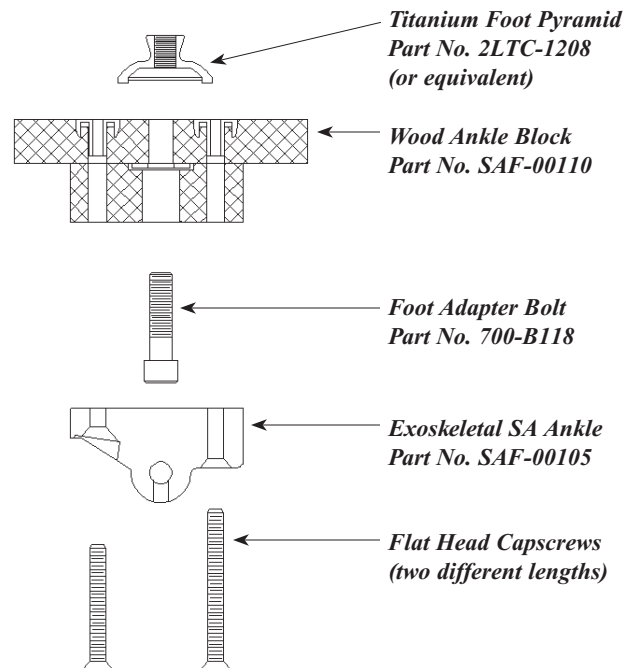

Figure 2 Assembly of Alignment Components (not for definitive use)
1. Attach a suitable foot pyramid (Part No. 2LTC-1208 or equivalent) or a Berkeley foot plate to the top of the Exoskeletal SA Wood Ankle Block with an appropriate foot bolt. Be sure to install the foot pyramid or Berkeley foot plate on the side of the Exoskeletal SA Wood Ankle Block that has the large flanges on the T-nuts (refer to Figure 2). Do not use a washer with the bolt, as a flat washer is already installed in the Exoskeletal SA Wood Ankle Block.
3. Attach the Exoskeletal SA Ankle to the opposite side of the wood block using the Flat Head Capscrews as shown in Figure 2. Use the longer capscrew at the thicker end of the Exoskeletal SA Ankle (anterior position).